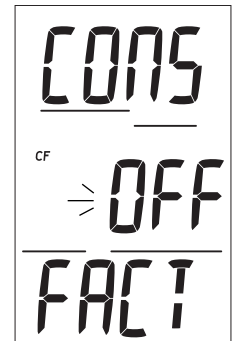

Fig. 33 - Set CF
**Set Conservative Factor (CF)**, information includes (Fig. 33):